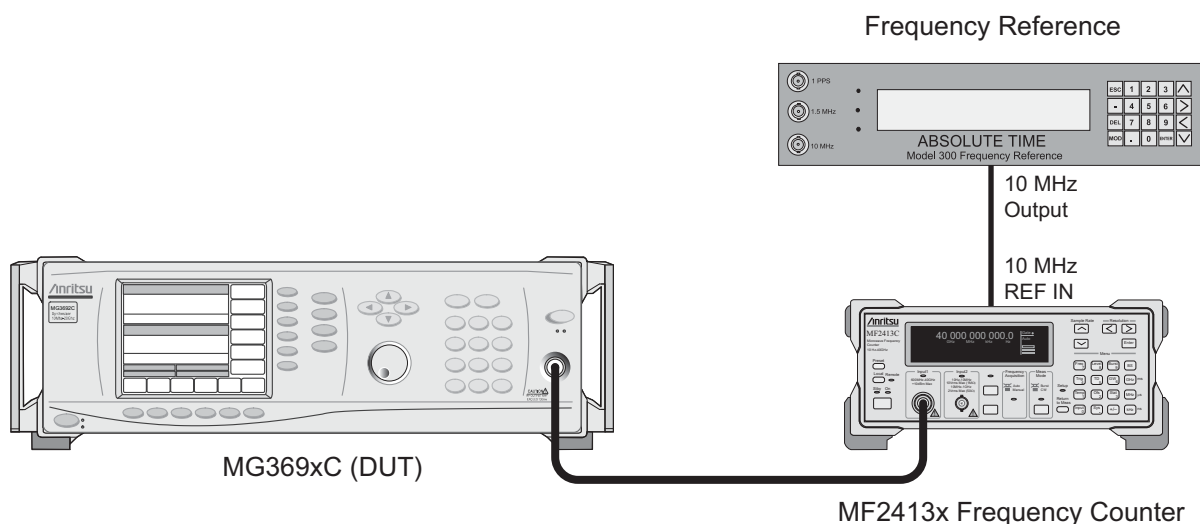

Figure 5-3. Equipment Setup for 10 MHz Reference Oscillator Calibration
- a. Connect the equipment as shown in Figure 5-3.